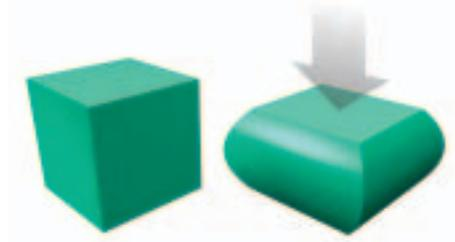

Figure 2.23 Compression
Compression is a force that acts to squeeze an object or push parts within an object together (Figure 2.23). Structures with parts that must resist compression include the human body, chairs, shelves, and architectural columns. Which parts of those structures do you think are resisting compression? Solid structures can usually resist the force of compression because of the strong materials they are made of.
- Look at the illustrations in Figures 2.23 to 2.25 and note the direction in which the forces are working.